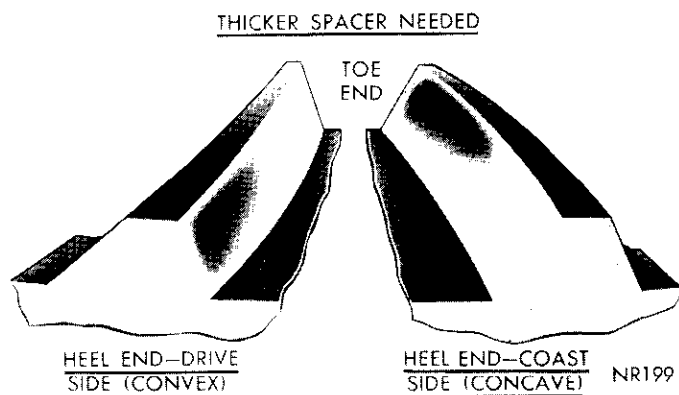
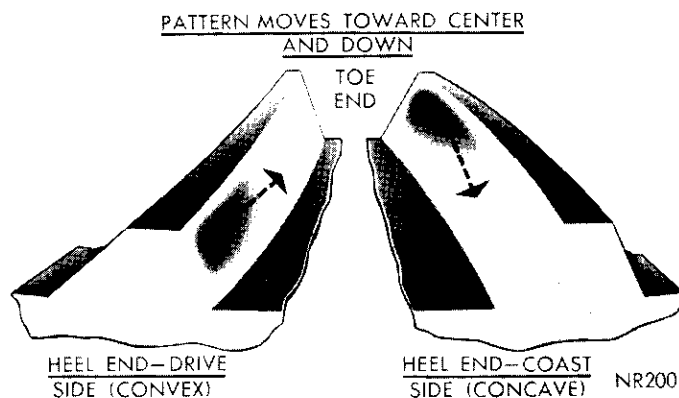

Fig. 35—Incorrect Tooth Contact Pattern (Increase Spacer Thickness)
Fig. 36—Effect Tooth Contact Pattern as Spacer Thickness Is Increased
(3) If after observing the contact pattern and you find it resembles that in (Fig. 35), the drive pinion is too far away from centerline of the ring gear, the contact pattern will appear high on the heel on drive side and high on toe on coast side. To correct this type tooth contact pattern, increase the thickness of the rear pinion bearing mounting spacer (Fig. 36), which will cause the high heel contact on drive side to lower and move toward the toe; the high toe contact on coast side will lower and move toward the heel.